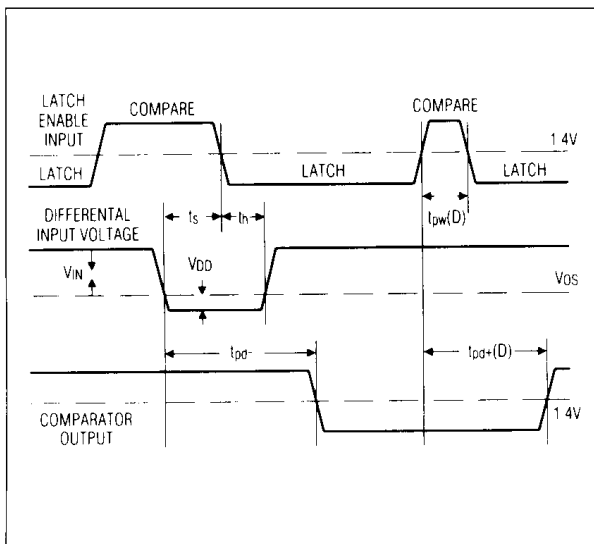

図2. MAX900/902/903タイミング図
- Note 5:** Guaranteed by design. Times are for 100mV step inputs (see propagation delay characteristics in Figures 2 and 3).
- Note 7:** See Timing Diagram (Figure 2). Owing to the difficult and critical nature of switching measurements involving the latch, these parameters cannot be tested in a production environment. Typical specifications listed are taken from measurements using a high-speed test-jig.